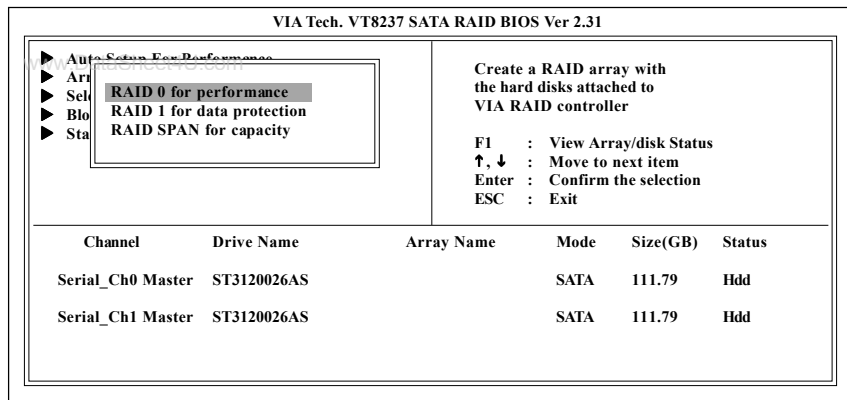

Figure 6
4. Then you will see a menu for you to select the RAID type (Figure 6). Use arrow keys to select RAID 0 for performance and press <Enter>.